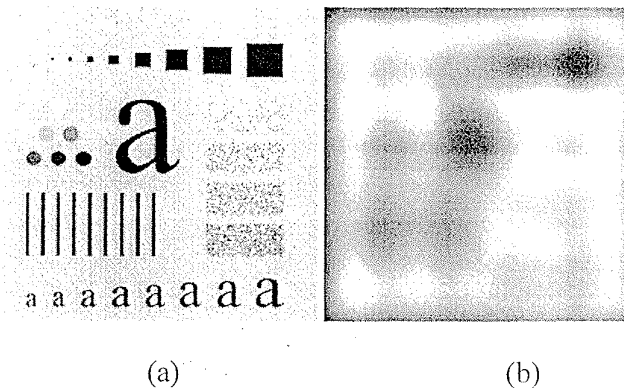

Figure Q4
- Consider the two images given in Figure Q4. (a) (Original image) and Figure Q4. (b) (Severely blurred image). Suggest a suitable filter to be used to remove the blurry effect. Justify your answer. Discuss the effect of increasing the filter radius. [4 marks]